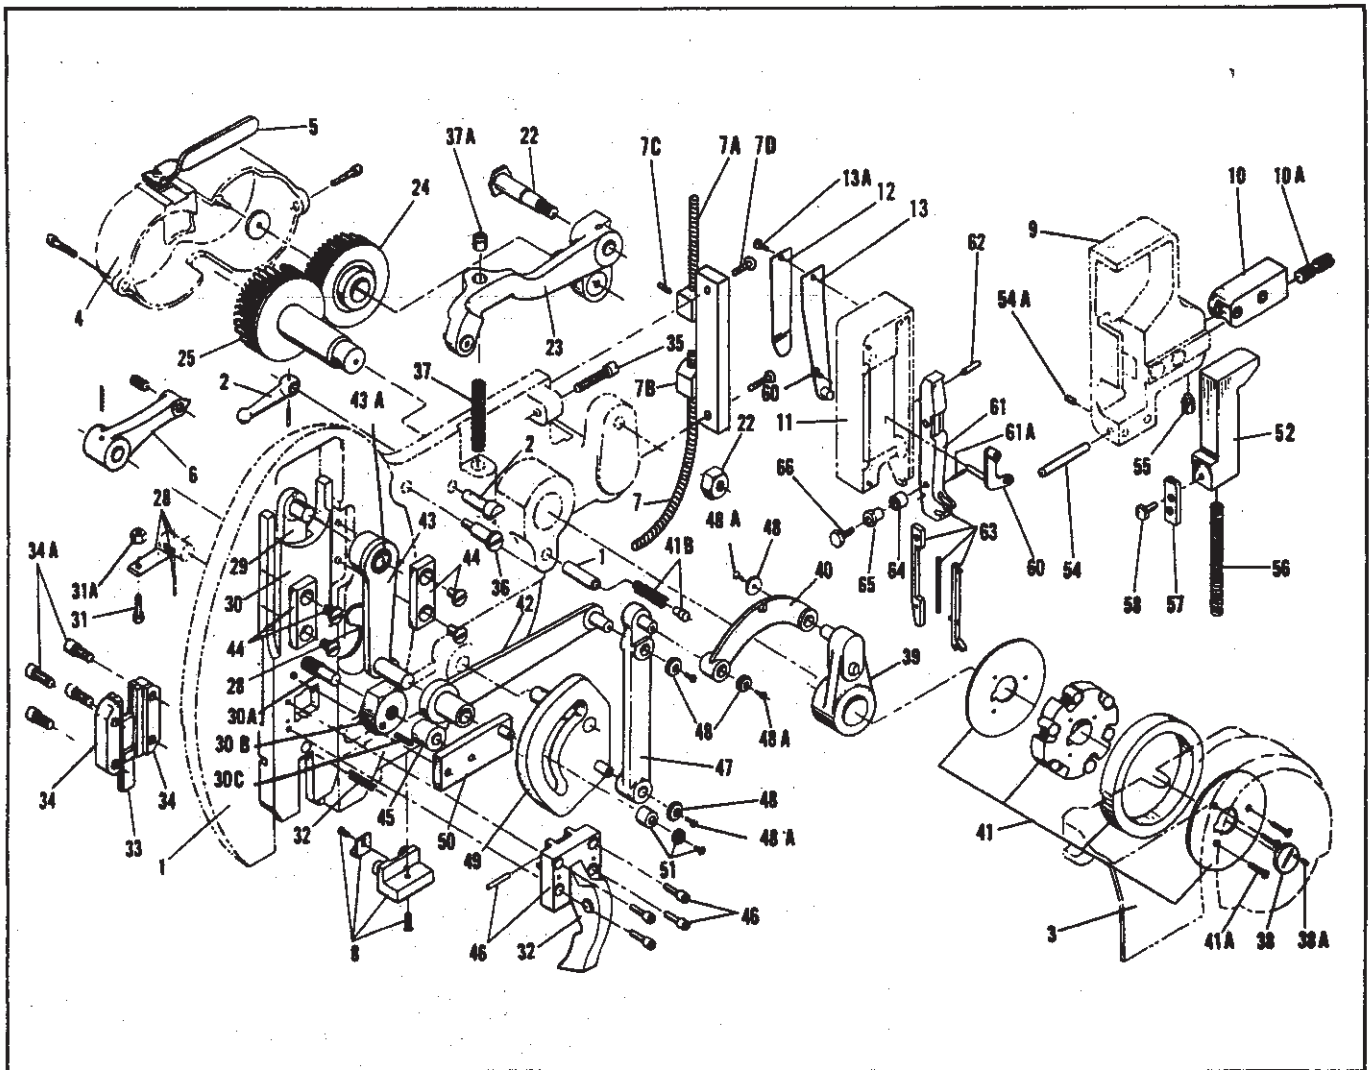
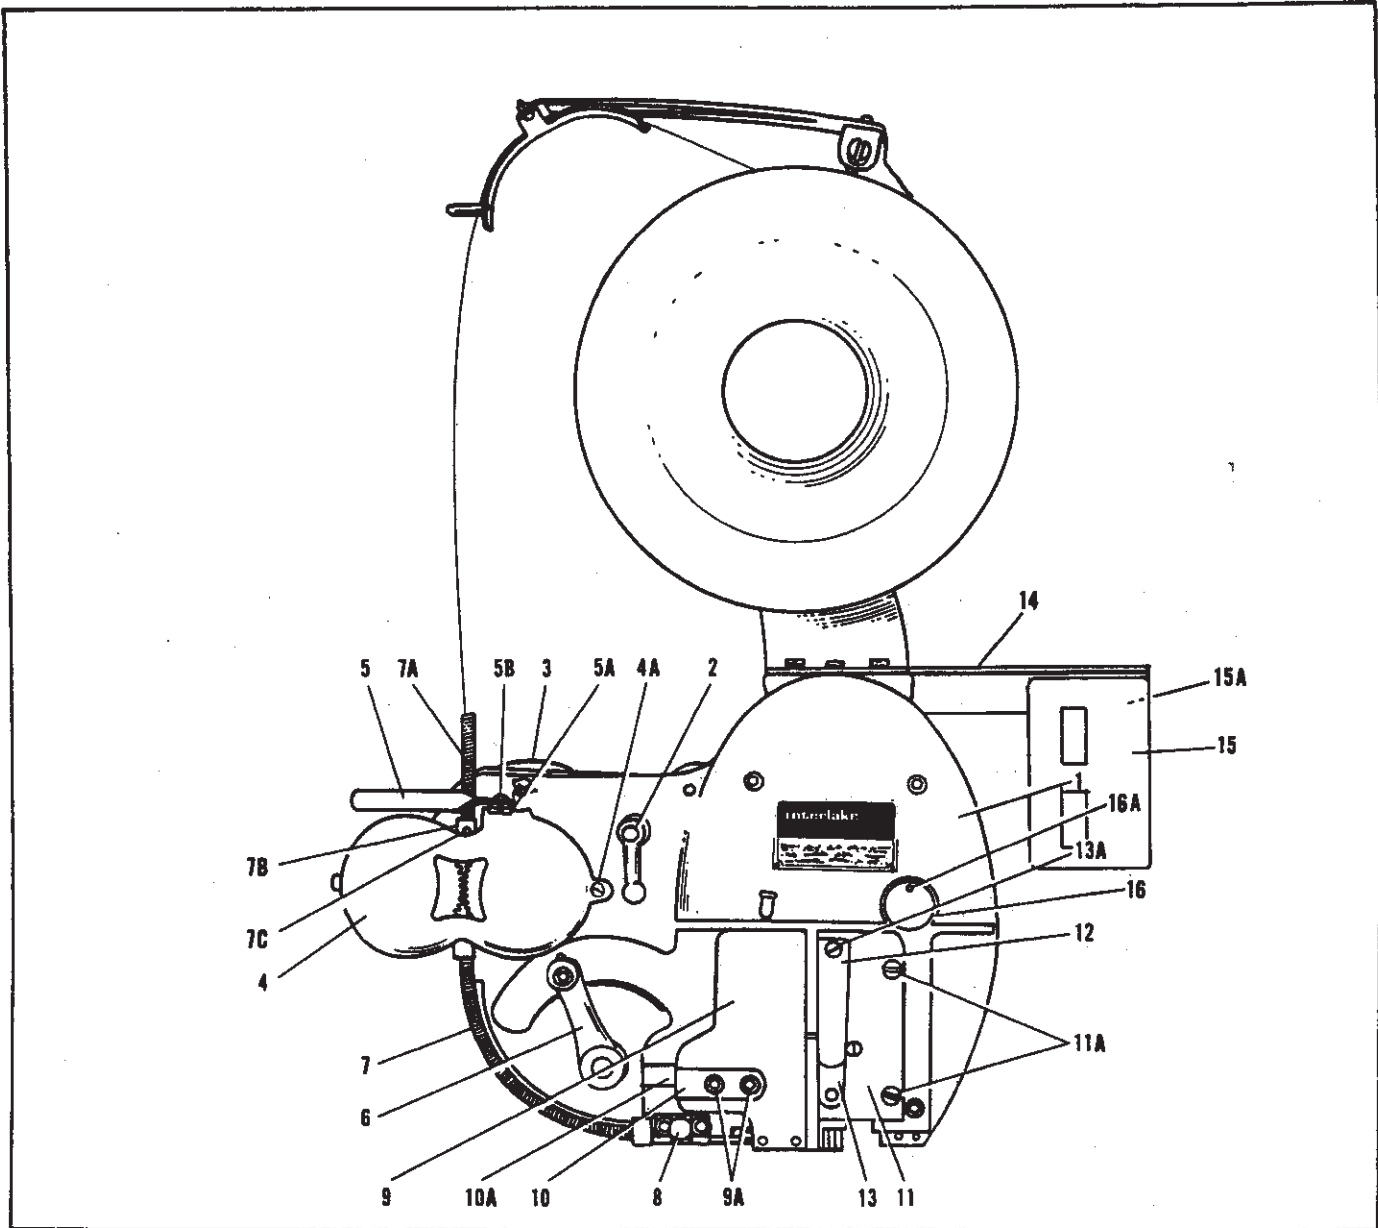

FIGURE 17
FIGURE 18
(1) Remove the front block (11, figure 18). (2) Step on foot pedal and slowly turn machine over by hand. The wire should come out of the cut-off die horizontally. (3) If the wire turns up, loosen set screw (8, figure 18) and move adjusting slide upward. If the wire curves down, loosen set screw and move adjusting slide down. (4) Tighten set screw. (5) Check wire as it comes out of cut-off die to determine if further adjustment is necessary.
The cutter block (9, figure 18) contains the cut-off die, flat knife and the parts required to equalize the stitch leg length. The adjusting slide, (10, figure 18) is directly connected to the wire draw linkage in the back of the stitcher head. The cutter block is adjusted on this slide to move the cut-off position in relation to the center of the stitch (this adjustment does not alter the amount of wire feed). The length of the shorter leg is increased by decreasing the length of the longer leg. Any adjustment made should therefore be one half of the original stitch leg variation. Check for improper adjustment of the cutter block by driving ten stitches into the work material. Adjustment is required if one leg is consistently short. Note if it is the right or left leg (as you face the stitcher) which is short.
(1) Make certain that the index lever set screw (6 figure 18) is tight. (2) Loosen the cutter block screws (9A figure 18) one-half turn and the set screw (55, figure 17) not more than one-eighth turn. (3) To increase the length of a short right leg, turn the adjusting screw (10A, figure 18) clockwise. For a short left leg turn the adjusting screw counterclockwise. (4) Press the cutter block to the left as far as possible. Tighten the cutter block and set screws. (5) Drive several stitches (the new adjustment will not show up until after the third stitch). (6) Repeat above steps if necessary.
(1) Feed the wire through the wire straightener (8, figure 18) but not into the cut-off die. (2) Operate the stitcher under motor power until approximately two feet of wire have been fed. The arc section should measure .028" to .032" thick. (3) If the wire measures less than .028", increase tension by turning set screw (37A figure 18) clockwise one or two turns. If there is excessive tension, turn set screw counterclockwise one or two turns. (4) Repeat steps 1 and 2 to recheck tension.
(1) Remove wire feed guard (3, figure 17). (2) Loosen set screw (38A, figure 17). (3) Remove screw (38, figure 17) and slide clutch from shaft. (4) Remove three screws (41A figure 17) and lift off front plate (41, figure 17). (5) Dip parts in a grease solvent and wipe dry. (6) Inspect the springs for signs of wear along the sides which contact the front and back plates. (7) Inspect the spider for wear in the bottom of the grooves which hold the rollers. (8) Inspect the rollers for wear. If these parts are worn, the wedging action of the rollers against the outer ring is lost. (9) Replace worn parts. (10) Oil parts lightly and reassemble.
The wire feed clutch brake assembly (41B, figure 17) prevents overfeed. Keep the part clean and free of oil.
The exploded view on this page contains all the parts in the stitching head. These parts and index numbers are duplicated in Figures 18 to 22 along with a complete listing of part numbers and part names.